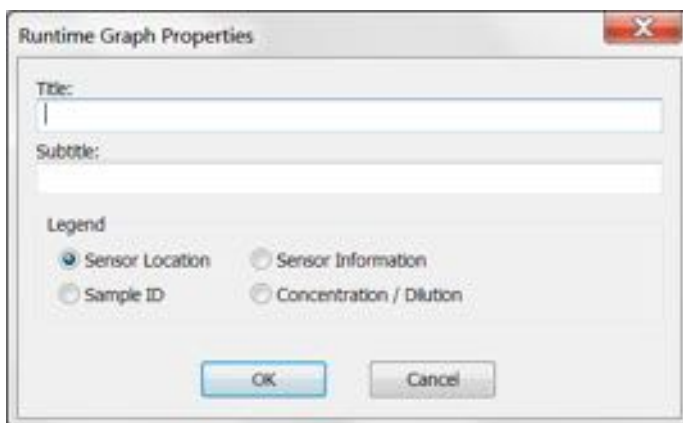

Figure 7-74: Selecting a Runtime Binding Chart Legend
The selected biosensor will be shown with an **R** in the **Sensors to Chart** list and **Sensor Tray** (see Figure 7-74).
2. Click the **Subtract reference sensors** check box (see Figure 7-74).
2. In the **Runtime Graph Properties** dialog box (see Figure 7-74), select one of the following legends: